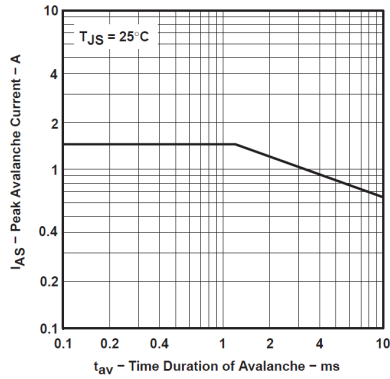

图 5-1. Peak Avalanche Current vs. Time Duration of Avalanche
- (1) Operation outside the Absolute Maximum Ratings may cause permanent device damage. Absolute Maximum Ratings do not imply functional operation of the device at these or any other conditions beyond those listed under *Recommended Operating Conditions*. If used outside the Recommended Operating Conditions but within the Absolute Maximum Ratings, the device may not be fully functional, and this may affect device reliability, functionality, performance, and shorten the device lifetime.
- (2) All voltage values are with respect to network ground terminal GND.
- (3) Pulse duration  $\leq 100\mu\text{s}$ , duty cycle  $\leq 2\%$
- (4) DRAIN supply voltage = 15V, starting junction temperature ( $T_{JS}$ ) =  $25^\circ\text{C}$ ,  $L = 100\text{mH}$ ,  $I_{AS} = 1\text{A}$  (see 图 5-1).
- (5) See Dissipation Table